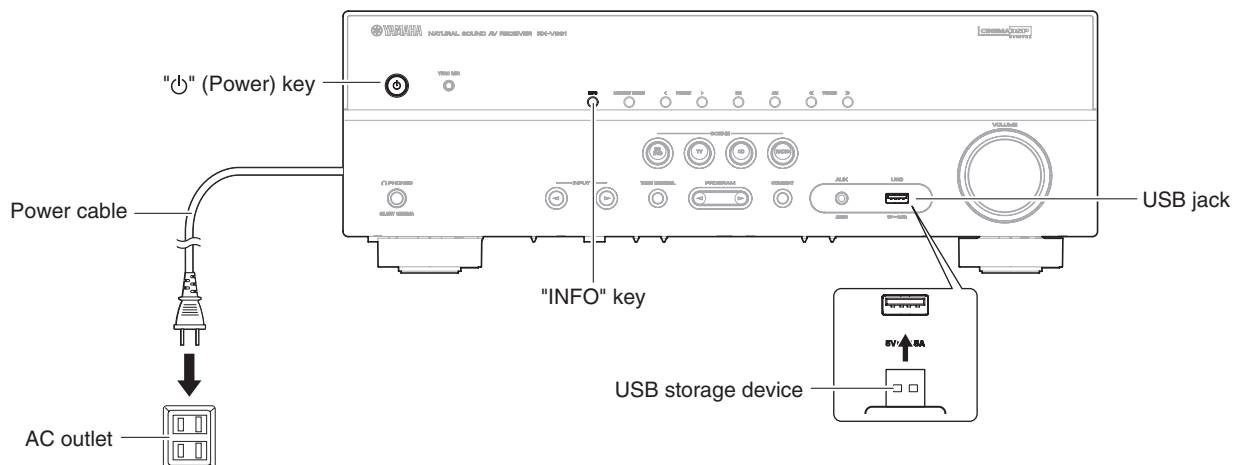

Fig. 1
1. Insert the USB storage device to the USB jack. (Fig. 1)
2. While pressing the "INFO" key, connect the power cable to the AC outlet. (Fig. 1)
- Press the "⏻" (Power) key to turn off the power. (Fig. 1)
- Remove the USB storage device from the USB jack. (Fig. 1)